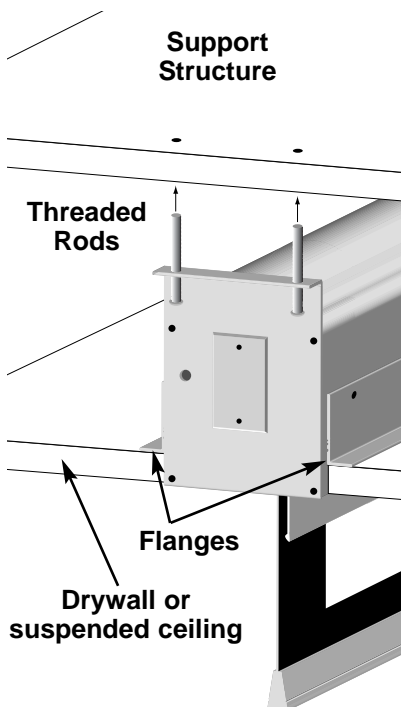

Figure 2: Recessed or concealed mount
3. Drywall or other ceiling material may be screwed directly to the ceiling flanges (plaster "ears") on the case. Refer to Figure 2.